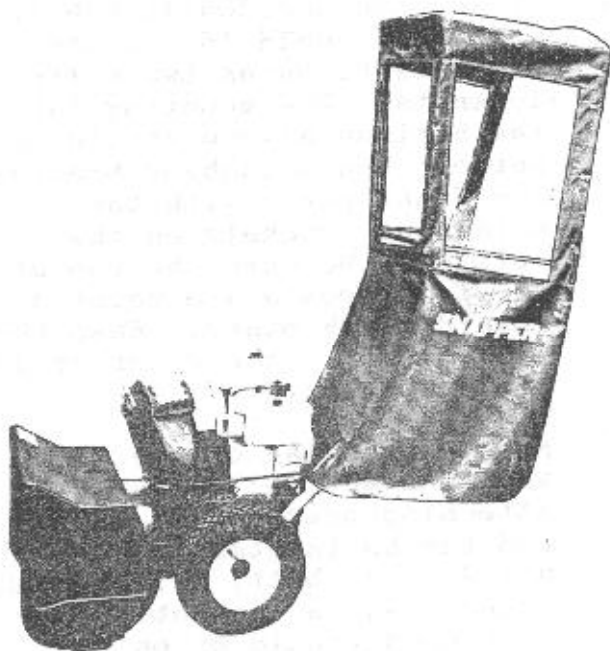

FIGURE 4
STEP 4; SEE FIGURE 4:
- A. Unfold the VINYL COVER (10). Place it over the frame and secure the snaps around the vertical bow.